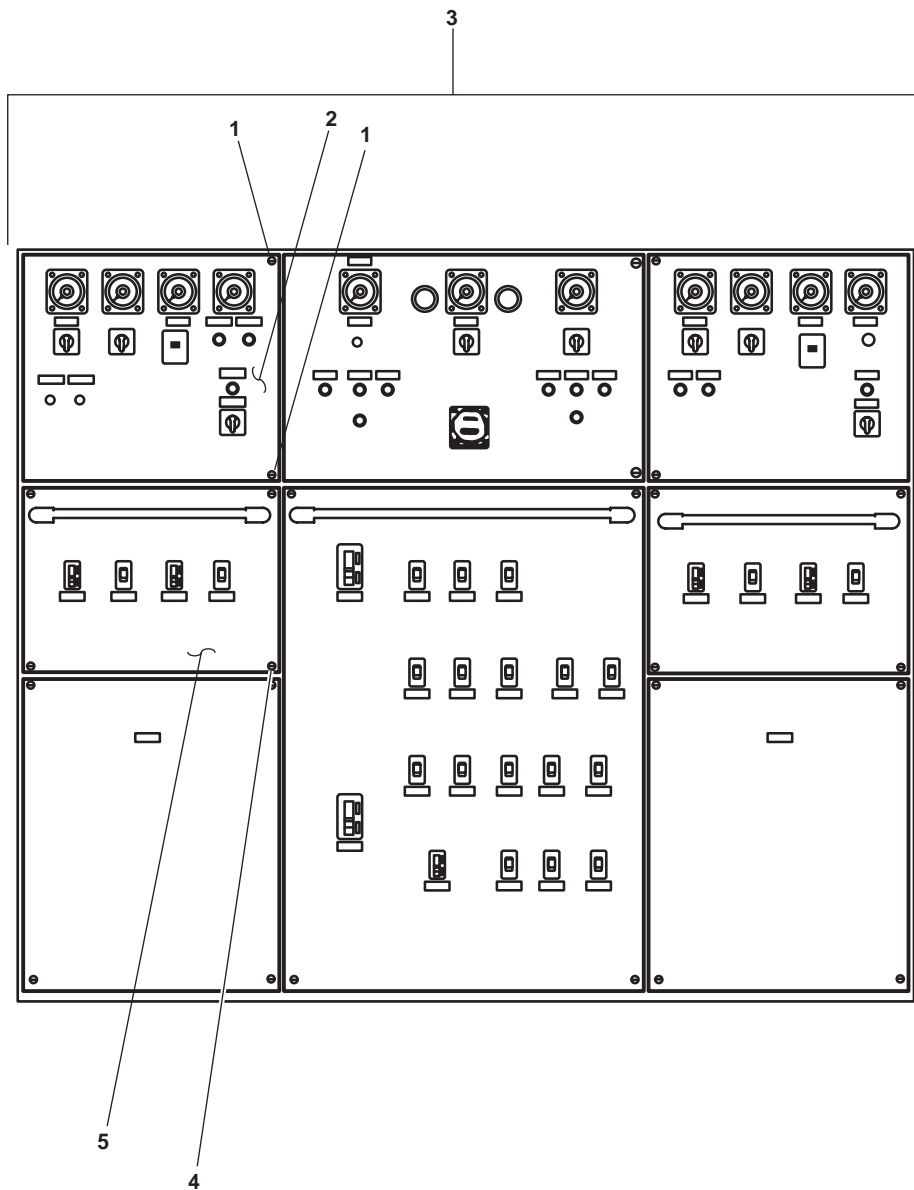

Figure 1. Main Switchboard
1. Loosen the two captive screws (figure 1, item 1) on the number 2 generator control panel (figure 1, item 2) of the main switchboard (figure 1, item 3).
2. Loosen the four captive screws (figure 1, item 4) on the inboard 460 volt panel (figure 1, item 5).
- 3. OPEN the number 2 generator control panel (figure 1, item 2).
4. Remove the inboard 440 volt panel (figure 1, item 5) from the main switchboard (figure 1, item 3).
7. Remove the fire and smoke detection panel from the main switchboard (figure 1, item 3).
3. Install the inboard 440 volt panel (figure 1, item 5) on the main switchboard (figure 1, item 3) and secure it by tightening the four captive screws.
4. CLOSE the number 2 generator control panel (figure 1, item 2) and secure it with the two captive screws (figure 1, item 1).